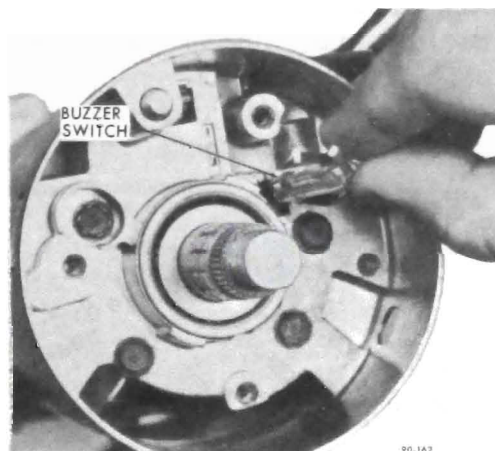

Figure 90-128 - Installing Buzzer Switch Clip and Switch
10. Assemble buzzer switch to spring clip with formed end of clip around the lower end of switch and spring bowed away from switch. This should lay on the switch opposite the contacts. Push switch and spring into hole with contacts toward the cylinder bore. See Figure 90-128.